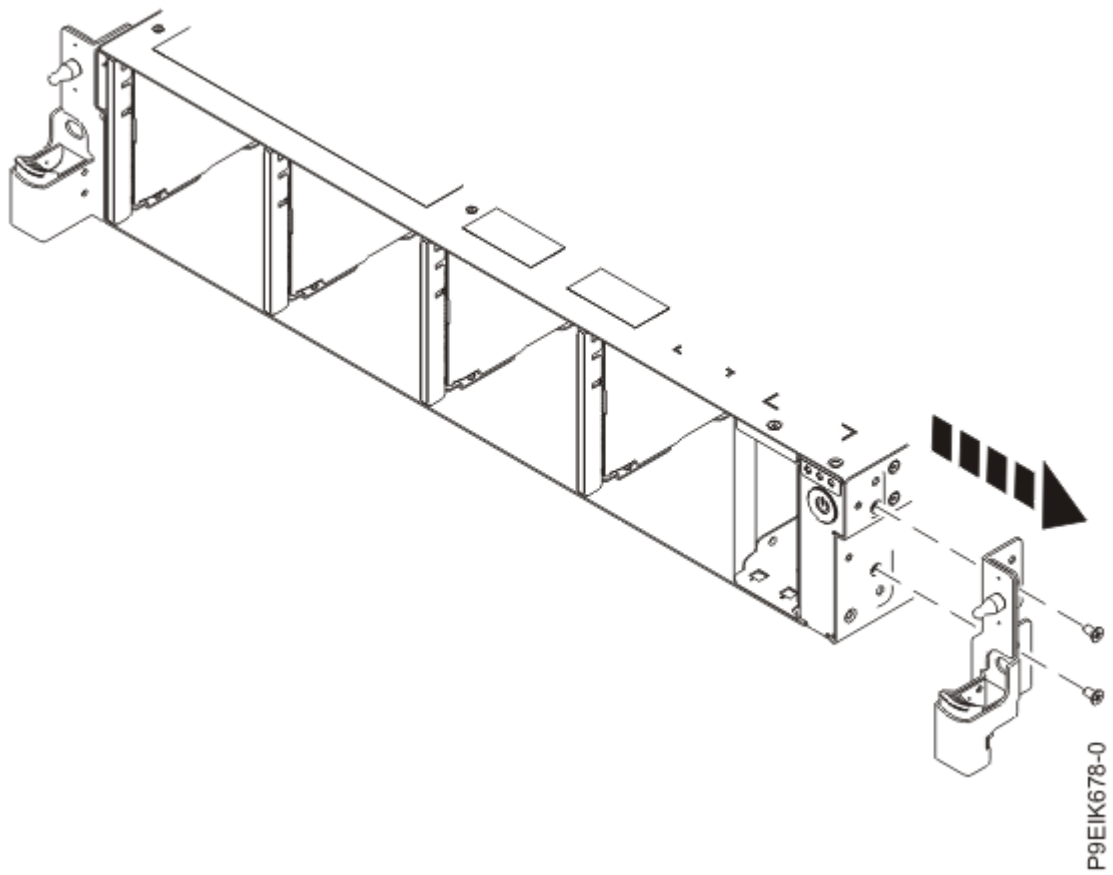

Figure 36. Removing the rack installation support
4. Remove the rack installation support from the side of the system as shown in Figure 36 on page 50.